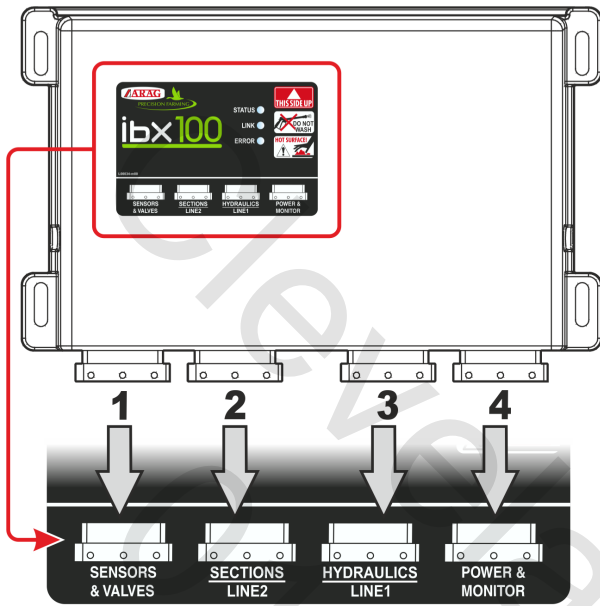

Fig. 6
**WARNING: DO NOT CONNECT THE ISOBUS CONNECTOR (Fig. 6 on page 8). IT MUST BE CONNECTED ONLY AFTER INSTALLING ALL COMPONENTS (Chap. 7 ISOBUS system cable connection).**